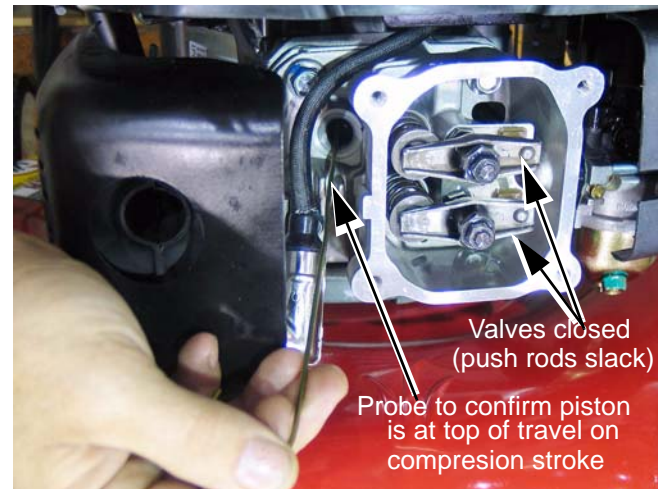

Figure 2.8
6. Confirm that the piston is at Top-Dead-Center on the compression stroke. See Figure 2.8.